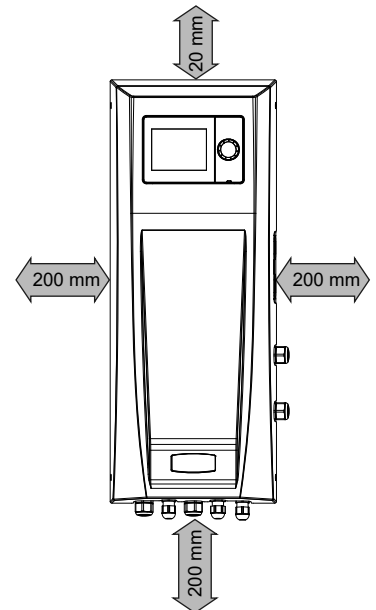

Figure 21. Control Box - Clearances
**⚠ CAUTION:** Do not obstruct the product by any surrounding objects or surfaces as this can limit access and adversely affect performance. The minimum clearances that are shown in *Figure 21* should be always maintained.